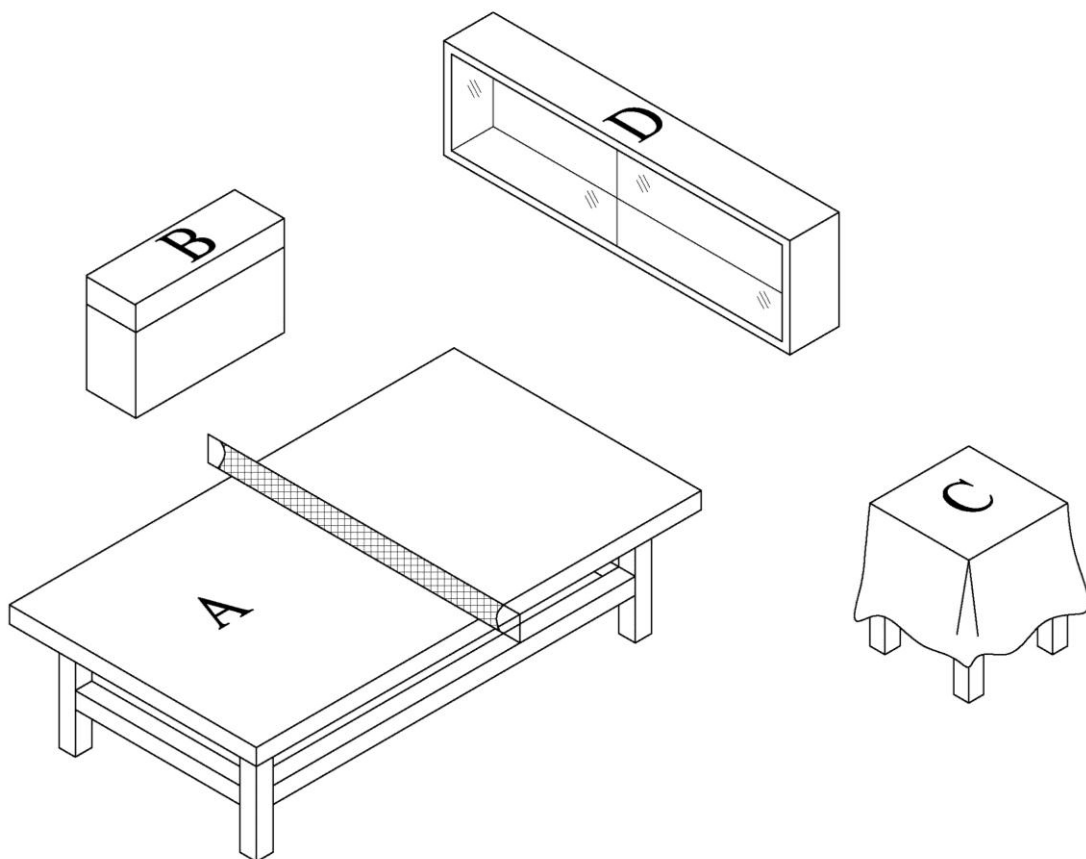

FIG. 9a
The plan and front view of a table tennis room are shown in Figure 9b. The rectangular room has five windows and a doorway that leads to a flight of steps. The furniture, which is also shown in Figure 9a, consists of a painted wooden table tennis table (A), eight benches (B), one presentation table (C), a hanging trophy show case (D) and two small notice boards. The drop ceiling is made up mainly of square mineral fibre panels. Three of the panels are translucent panels fitted with light fixtures. The size of the panels is three times larger than the floor tiles.